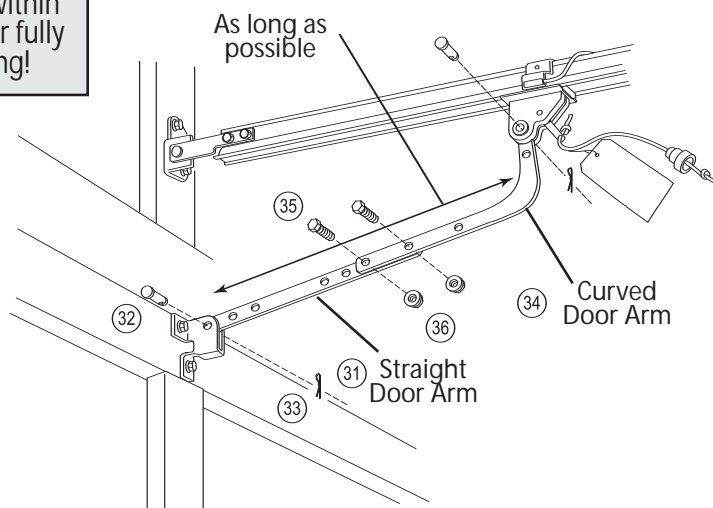

Figure 23B Assemble Arms (ONE-PIECE)
- A** Attach Straight Arm to Door Bracket with Clevis Pin and Cotter Pin (**Figure 23B**).